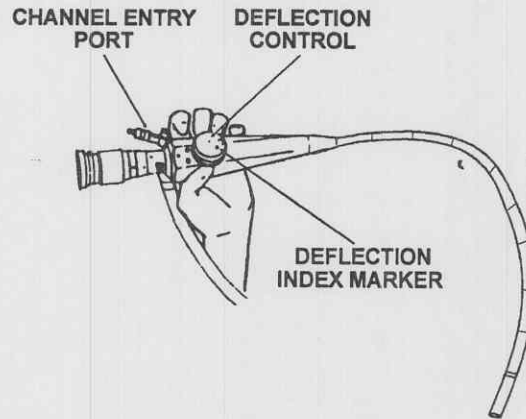

Figure 3-4. Deflection control.
- (1) Hold the fiberoptic bronchoscope in your left hand as illustrated in figure 3-4.